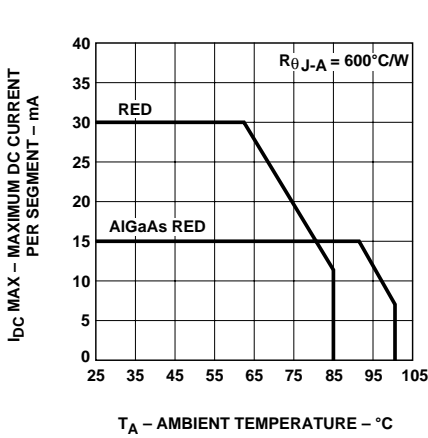

Figure 3. Maximum Allowable DC Current vs. Ambient Temperature. $T_{JMAX} = 100^{\circ}C$ for Red and $T_{JMAX} = 110^{\circ}C$ for AlGaAs Red.
- Derate maximum DC current for Red above $T_A = 62^\circ\text{C}$ at 0.79 mA/ $^\circ\text{C}$, and AlGaAs Red above $T_A = 91^\circ\text{C}$ at 0.8 mA/ $^\circ\text{C}$. See Figure 3.